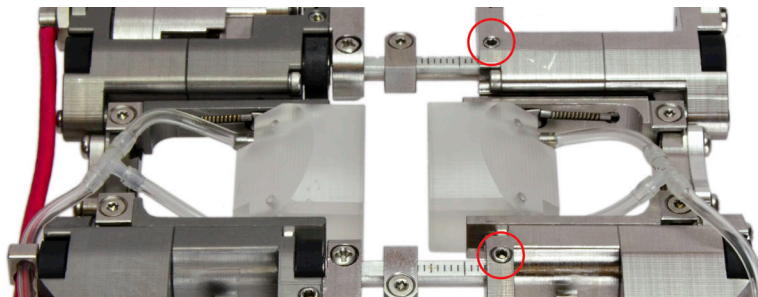

Figure 41 - Loosening Crossbar Clamp Screws
- Loosen both crossbar clamp screws (Figure 41) located on the non-encoded side of the scanner